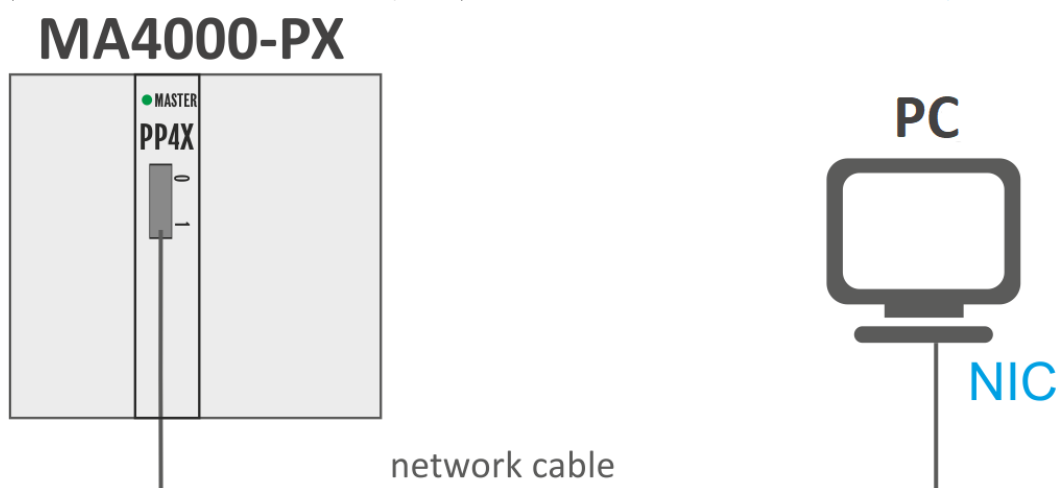

Figure 17 – Connecting access node to PC with the network cable
Step 1. Connect the network cable to the **Gigabit Ethernet** port **0** or **1** (RJ-45 connector) of the PP4X master module ('Master' LED should be solid green) and to the PC's network card, see Figure 17.